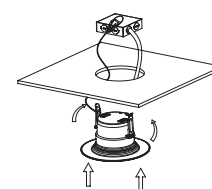

Fig. 9
- Step 4: Squeeze the two housing clips so they are in an upright position and insert lamp into opening ( Fig.9).